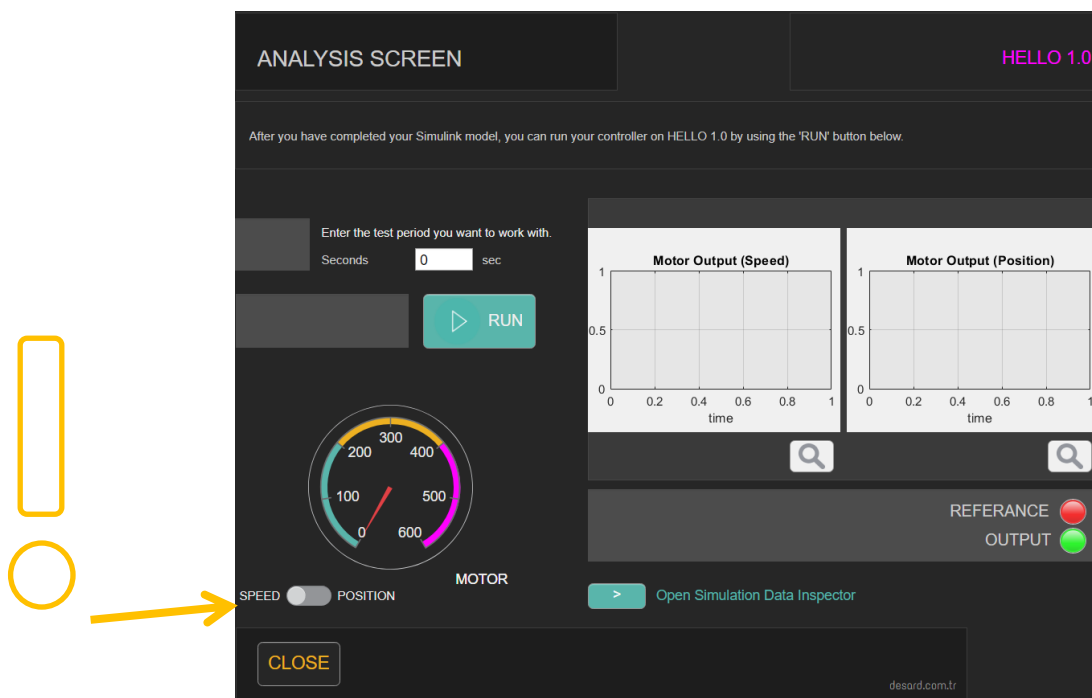

FIGURE 4 : Analysis Screen
- The screen shown in Figure 4 will open.